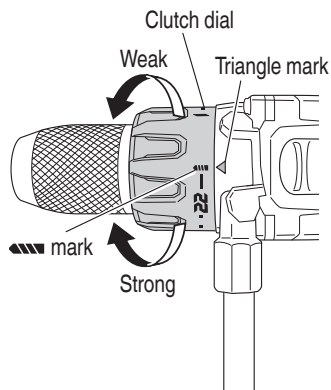

Fig. 14
7. Confirm the clutch dial position (See Fig. 14).
- (2) Tightening torque indication (See Fig. 14, 16)
- (3) Adjusting the tightening torque (See Fig. 14, 16)